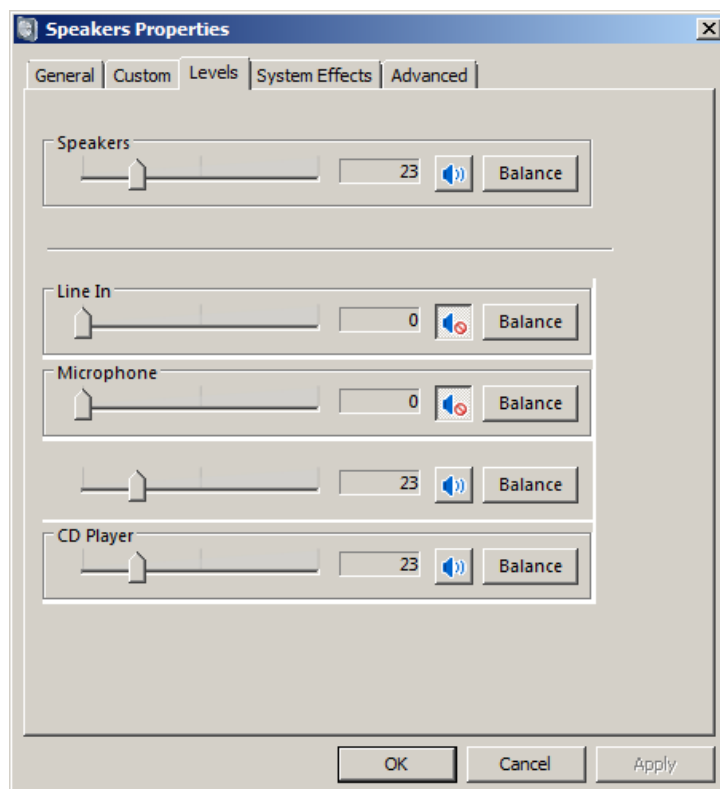

Figure 4.10 Playback channel properties – Output levels
- 3) Click on the tab '**Levels**' to open the output mixer (as in Fig. 4.10). Then mute Line In and Mic channels, if exist.